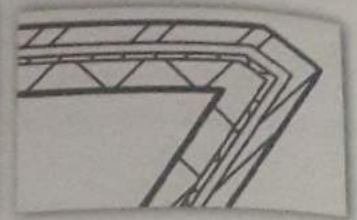

Figure 58: Square off join-45 angle
4. If the selected join type is Butt or Square off, you can click the Next and Previous buttons to cycle through previews of the possible join orders. For the squared-off join shown above, the following alternative order would be available (Figure 58).